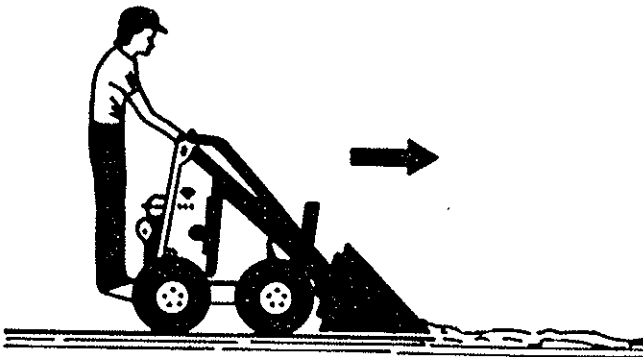

FIGURE 16
3. Another method of levelling is to travel forward with bucket down and level, full of material and pushing excess into low areas. Depth is controlled by tilting the bucket slightly up or down, as in Figure 16.